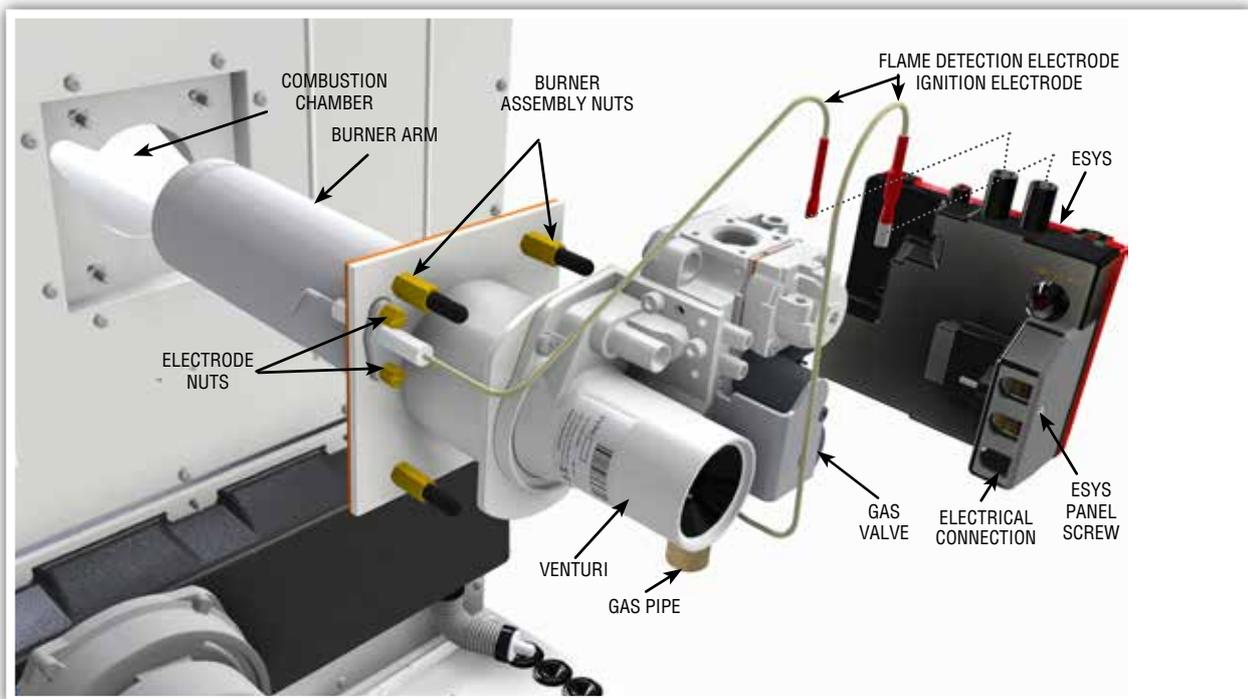

FIGURE 18. MAIN BURNER ASSEMBLY REMOVAL
- 16.4.1 Refer to section 16.3. See Figure 18.